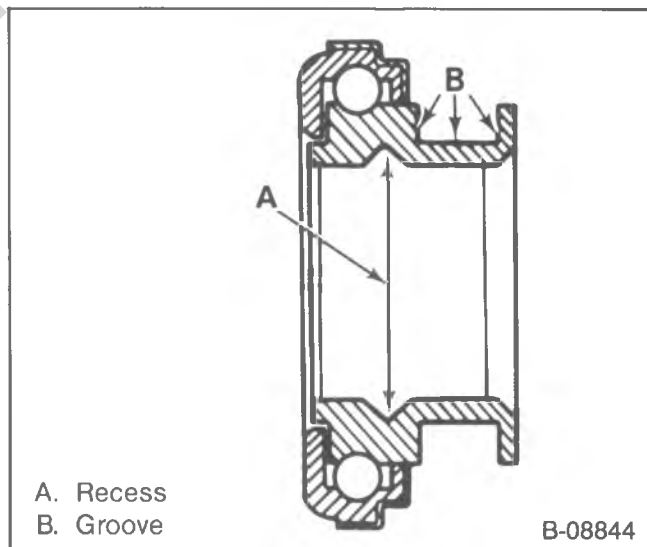

Figure 13—Release Bearing
- Pack the ball stud seat from the lubrication fitting (A) on the flywheel housing (207) (R-V models only).
6. New retainer (211) if needed.
7. Release bearing (212), the clutch fork (200) and the boot (210).
- Pack the inside recess (A) and the outside groove (B) of the release bearing (212) with high temperature grease as shown, (figure 13).
8. Flywheel housing (207) and the screws (216).
9. Cover (215) and the screws (216).